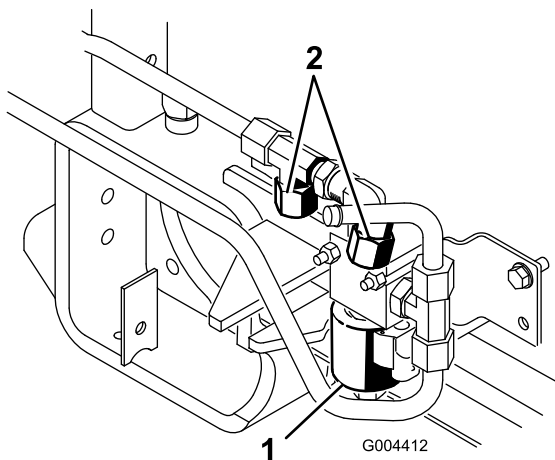

Figure 3
1. Remove the 2 cap plugs from the rear remote hydraulic valve (Figure 3).